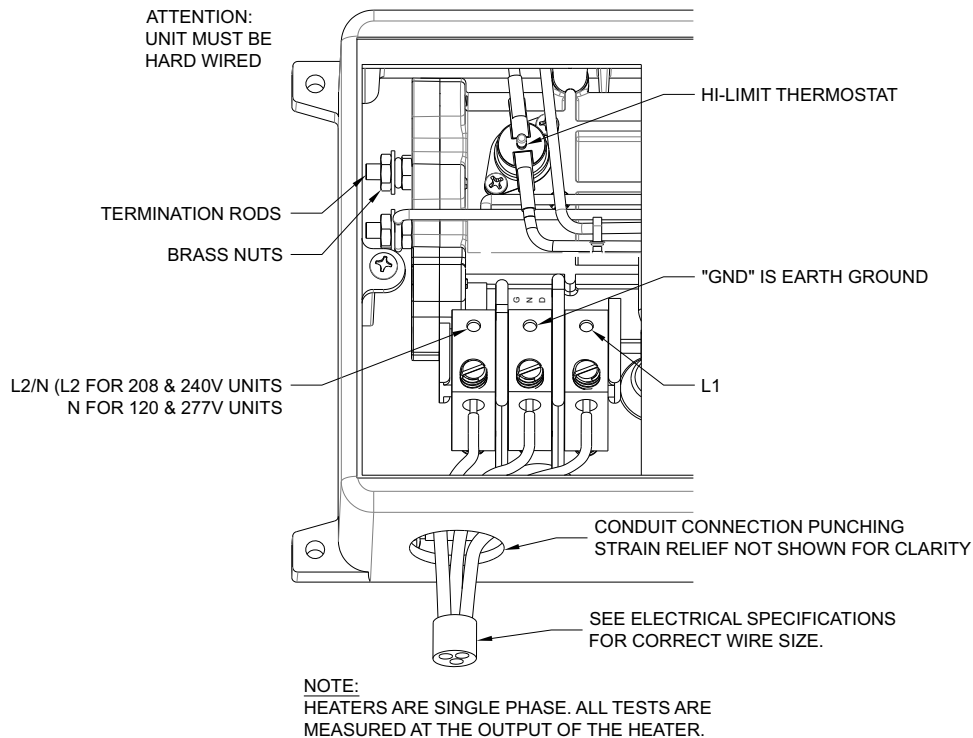

FIGURE 2 WIRING CONNECTION
1. Connect power supply wires appropriately sized and protected by circuit breaker to the input terminals on the heater (hard wired) as shown in the Figure 2 wiring diagram.